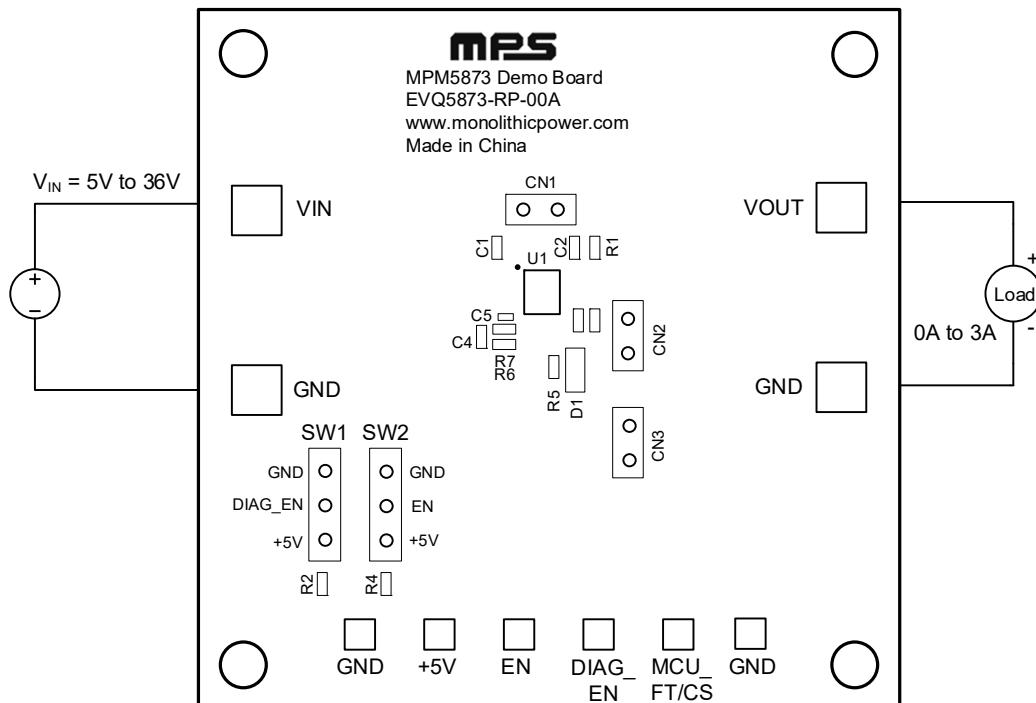

Figure 2: Measurement Equipment Set-Up
15. Figure 2 shows the measurement equipment set-up.